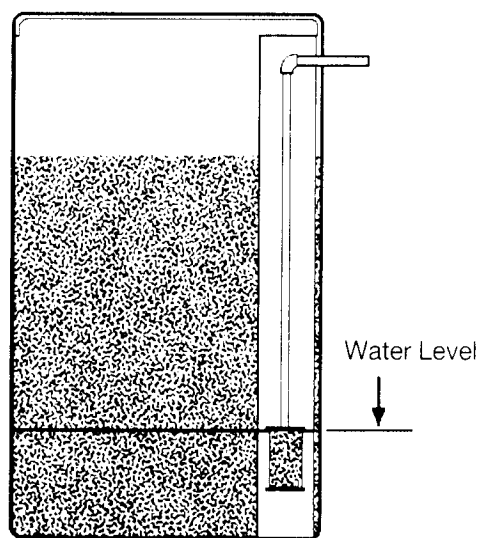

Figure 11
A. Add enough softened water to the brine tank to cover the screen at the bottom end of the brine pick-up tube (Figure 11).